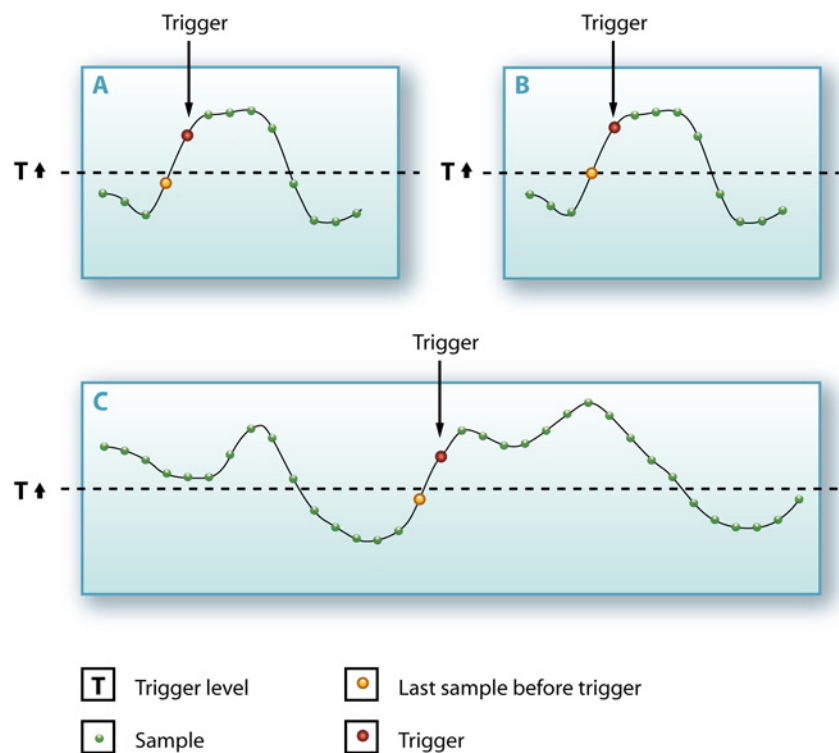

Figure 10.2: Level crossing detector
Figure 10.2 shows the basic trigger mode with a specified level (T), and a level crossing in positive direction. In Figure 10.2 (A) the trigger occurs on the first sample after the level crossing. Figure 10.2 (B) shows the situation in which a sample equals the set level. Trigger does not occur until a sample is actually above the required level.
Since the trigger detector requires a level crossing, no trigger occurs when a signal is above the set level when recording starts. This is depicted in Figure 10.2 (C).